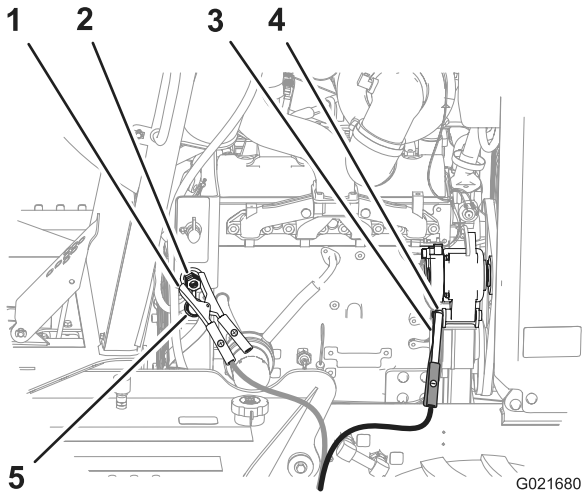

Figure 59
4. Remove the cover from the jump post (Figure 59).
5. Connect the positive (+) jumper cable to the jump post (Figure 59).
6. Connect the negative (-) jumper cable to a ground point, such as the nut at the pivot point for the alternator (Figure 59).